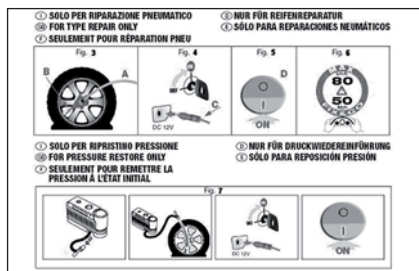

fig. 12
- instruction brochure **fig. 12**, used for prompt and proper use of the quick repair kit and to be then handed to the personnel charged with treating the tyre repaired with the kit;